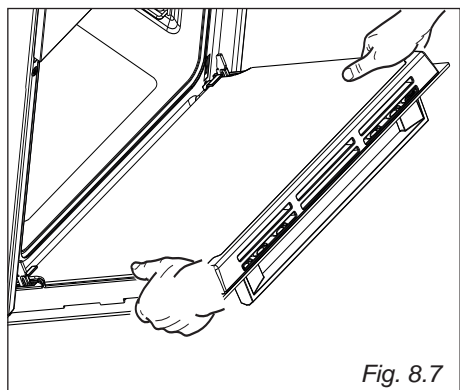

Fig. 8.7
- Hold the door as shown in fig. 8.7.